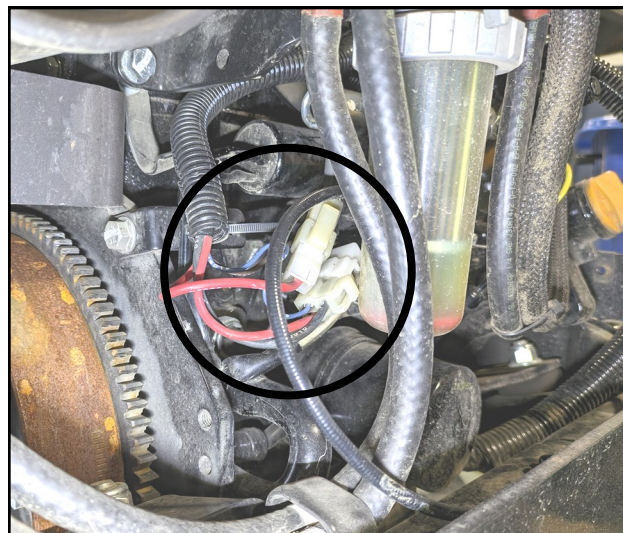

Fig. 1.32 (Disconnect White Connectors)
- 1.32** Disconnect the white wire connectors shown in Figure 1.32, and pull the harness out from behind the fuel hardlines.